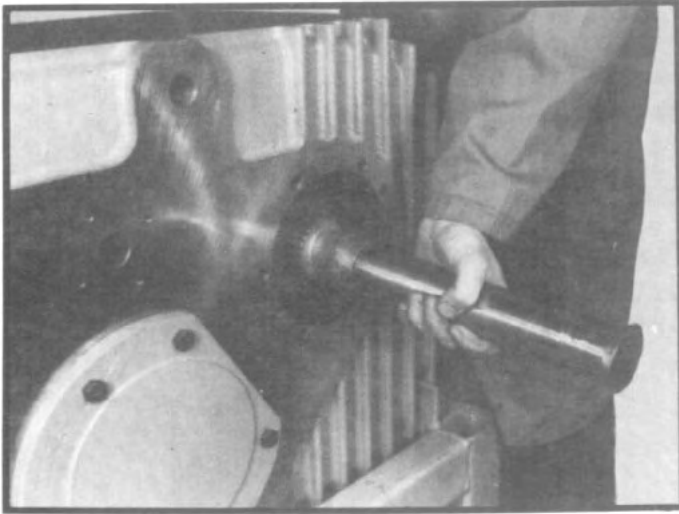
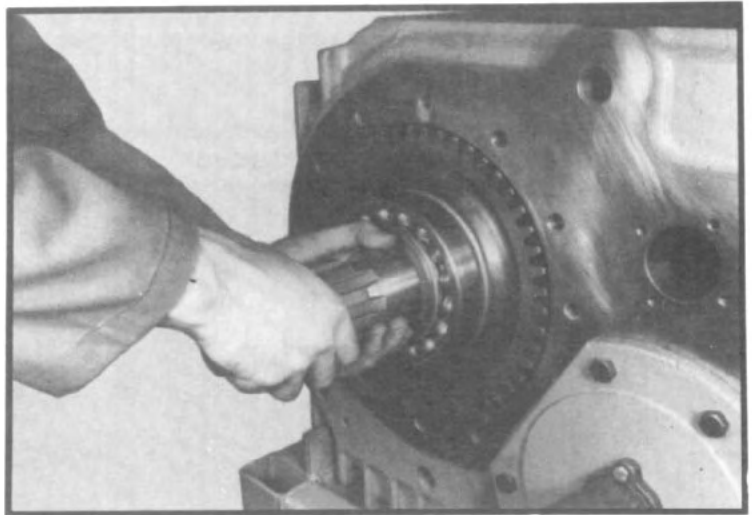
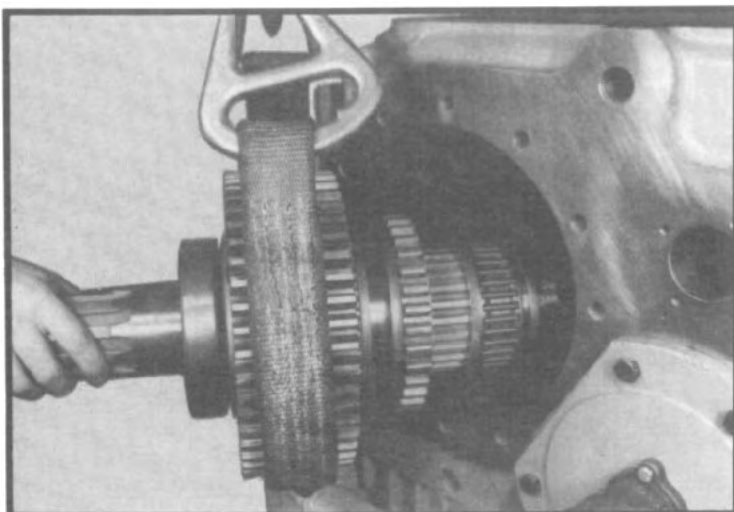

Fig. 35
Fig. 36
Fig. 37
- 1.11 Drive lower shaft assembly from case by tapping with a soft hammer on the front of the shaft. (See fig. 35.) The direct drive gear will have to be aligned with the rear case bore for shaft assembly to be removed. (See fig. 36.) Attach a chain hoist with a sling around the direct drive gear and remove the shaft assembly through the rear case bore. (See fig. 37.) Remove the needle bearing assemblies and spacer ring for the underdrive gear from the shaft or from inside the underdrive gear.